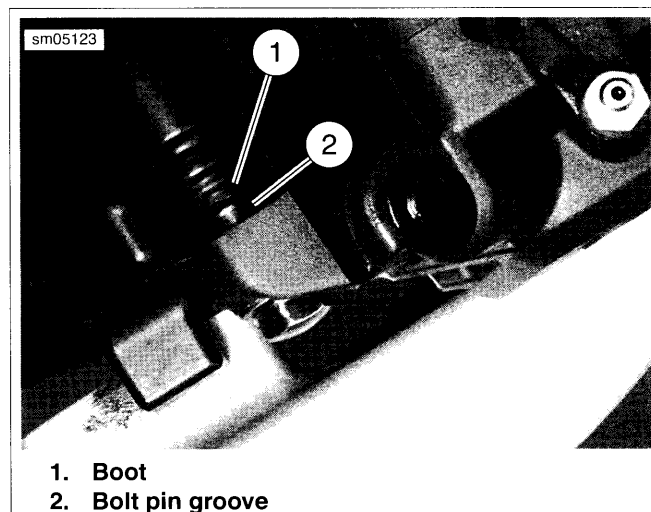

Figure 2-119. Bolt Pin and Boot
5. Place rear caliper assembly onto mounting bracket. Install bolt pin (6), being careful not to pinch or roll boot over. Tighten bolt pin to 14-18 ft-lbs (19.6-24.5 Nm). See Figure 2-119. Ensure lip of boot (1) properly engages the groove (2) in the bolt pin.